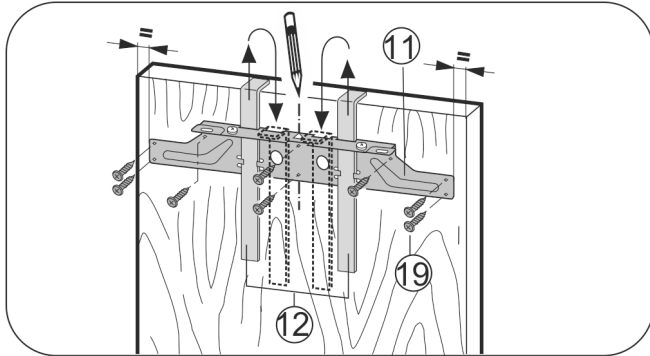

Fig. 21
- ▶ Hang the crosspiece Fig. 21 (11) on the inside of the unit door using the fitting aids Fig. 21 (12). With a 600 mm (1.97 ft) wide recess:
- ▶ Align the crosspiece Fig. 21 (11) to the middle of the door.
- ▶ Secure the crosspiece Fig. 21 (11) with at least 6 screws Fig. 21 (19).
- ▶ Secure the crosspiece Fig. 21 (11) with 4 screws Fig. 21 (19) at the edge.
- ▶ Lift up fitting aids Fig. 21 (12), turn round and insert into the adjacent openings.